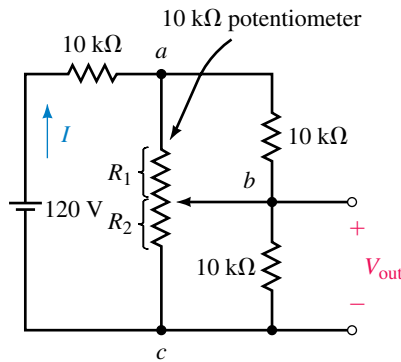

FIGURE 7-71
31. Refer to the circuit of Figure 7-71:
32. In the circuit of Figure 7-71, what value of R_2 results in an output voltage of $40\ \text{V}$?